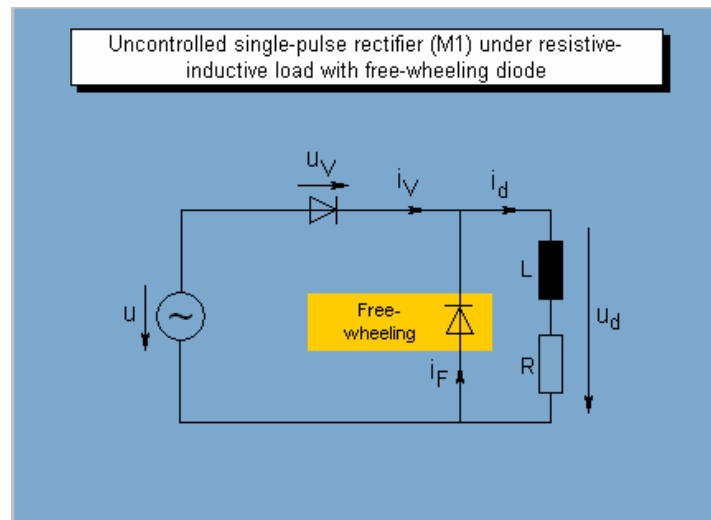

Figure 1-11 Single-phase half-wave rectifier with freewheeling diode
12. Repeat the experiment for the R & L values are shown in Table 1-2 with freewheeling diode as shown in Fig. 1-11.